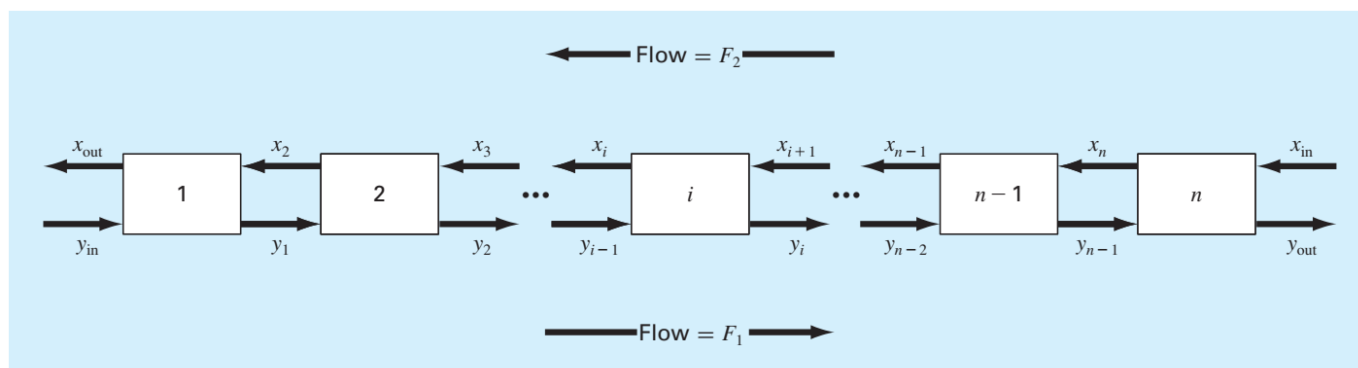

FIGURE P9.13
9.13 A stage extraction process is depicted in Fig. P9.13. In such systems, a stream containing a weight fraction y_{in} of a chemical enters from the left at a mass flow rate of F_1 . Simultaneously, a solvent carrying a weight fraction x_{in} of the same chemical enters from the right at a flow rate of F_2 . Thus, for stage i , a mass balance can be represented as